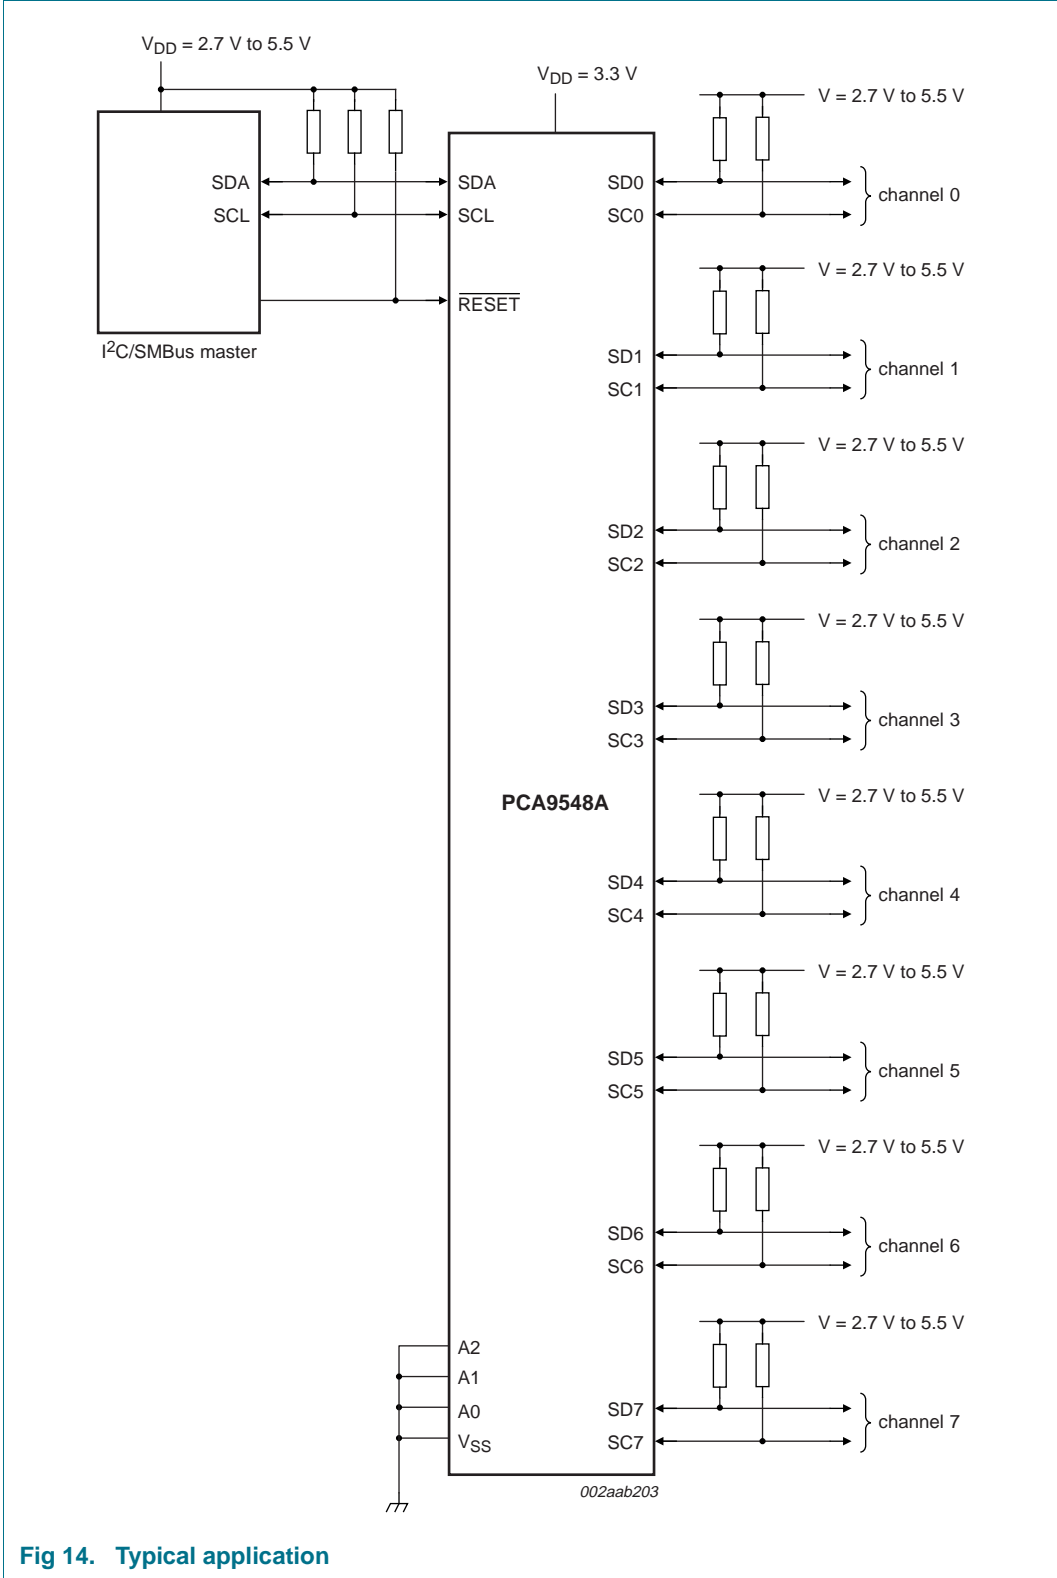

Fig 14. Typical application
Figure 7 shows the voltage characteristics of the pass gate transistors (note that the PCA9548A is only tested at the points specified in Section 11 “Static characteristics” of this data sheet). In order for the PCA9548A to act as a voltage translator, the VO(SW) voltage should be equal to, or lower than the lowest bus voltage. For example, if the main bus was running at 5 V, and the downstream buses were 3.3 V and 2.7 V, then VO(SW) should be equal to or below 2.7 V to effectively clamp the downstream bus voltages. Looking at Figure 7, we see that VO(SW)(max) will be at 2.7 V when the PCA9548A supply voltage is 3.5 V or lower, so the PCA9548A supply voltage could be set to 3.3 V. Pull-up resistors can then be used to bring the bus voltages to their appropriate levels (see Figure 14).